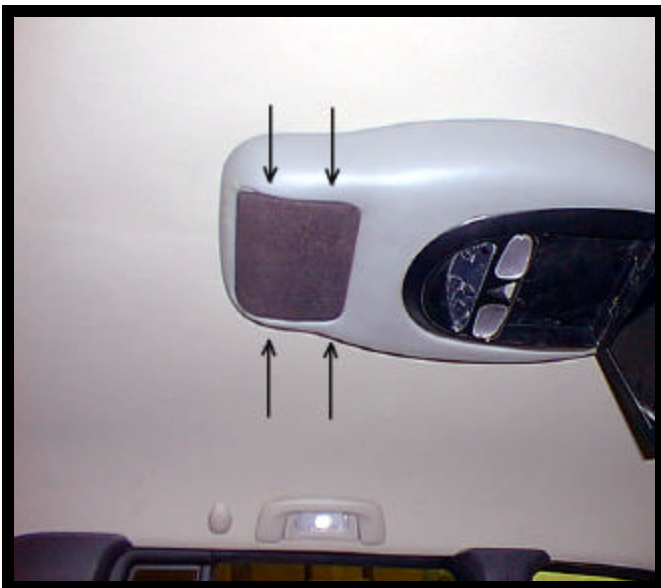

FIGURE 9
19. Install speaker grille (item 9 pg 2). Align clips in grille with holes in console and press firmly. See Figure 9.
20. If speaker upgrade kit was not installed, install cover plate (item 10 pg 2) at front of console and secure using (2) # 6 X 1/2" screws (item 5 pg 2).
21. Install cover plate decal (item 11 pg 2).